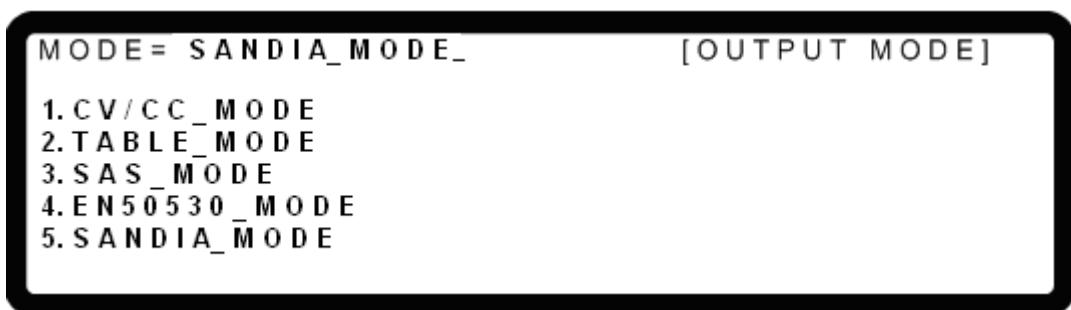

Figure 3-169
1. Use the numeric keys **0** - **4** or the rotary knob () to select **SANDIA_MODE** as shown in Figure 3-169.